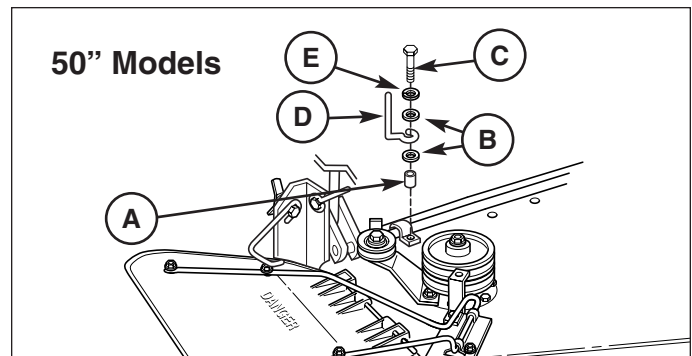

Figure 7. Install Belt Guide
1. See Figure 7 & 8. Locate the taptite screw that will be replaced by capscrew (C). Remove and discard the taptite screw
2. Assemble the 5/16-18 x 1-1/2 capscrew (C), lock-washer (E), washers (B), belt stop (D) and spacer (A).
Note The belt stop (D, Figures 7 & 8) is located and oriented differently in 44" and 50" applications. For all applications, when turbo is installed, beld stop (D) should be outside the belt 1/8" away from the backside of the belt.
NOTE: The deflector latch **MUST** secure the deflector in a down position—as shown in Figure 7.